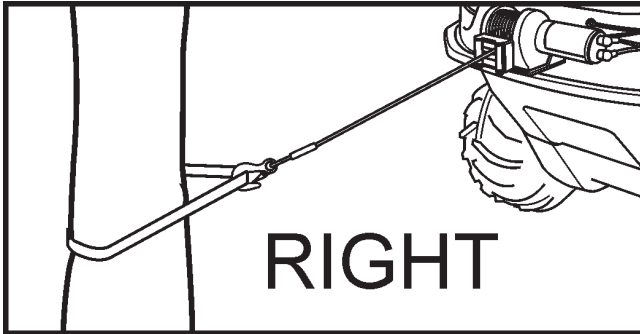
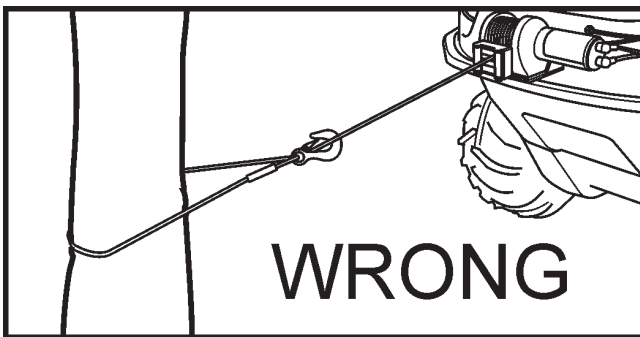

Figure 11-9. Correct hook-up.
Figure 11-10. Incorrect hook-up.
8. NEVER HOOK THE WIRE ROPE BACK ONTO ITSELF. Use a nylon sling. (Figure 11-9.) Hooking the wire rope onto itself can damage the rope (Figure 11-10).